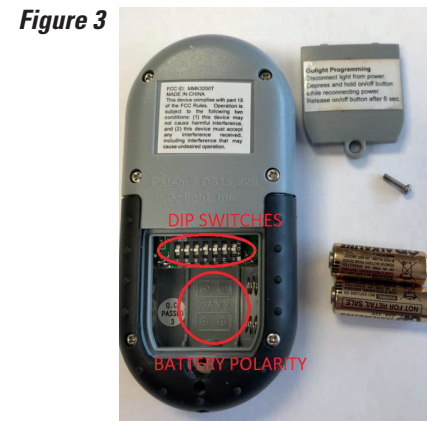

Figure 3 - Wireless Handheld Remote
2. Insert the two supplied 23A 12V batteries. Note batteries must be installed with proper polarity (+ and -) as shown inside battery compartment. See Figure 3.
3. Set the seven DIP switches (See Figure 3) to the selection of your choice using a small flat screwdriver. Note each switch has positive and negative settings with neutral in the middle. Note the orientation of the positive and negative settings may vary between the wireless handheld and wireless dash mount.